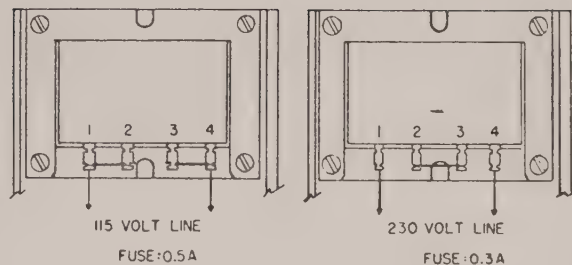

FIG. 2-2 CONVERSION TO 230V AC LINE OPERATION
2.6 This power supply is normally shipped for operation on a nominal 115V AC, single phase line. If 230V AC operation is desired, the transformer primary link connections must be changed as shown in Fig. 2-2 below. For either line voltage, the input connections must be made to terminals (1) and (2) on the rear barrier strip. If a three-wire line cord is used, the third wire (AC ground) must be connected to terminal (3).
2.7 Procedure for Conversion to 230V AC Operation (Refer to Fig. 2-2)
- Remove bare wire jumpers between terminals (1) and (2) as well as (3) and (4).
- Connect bare wire jumper between terminals (2) and (3).